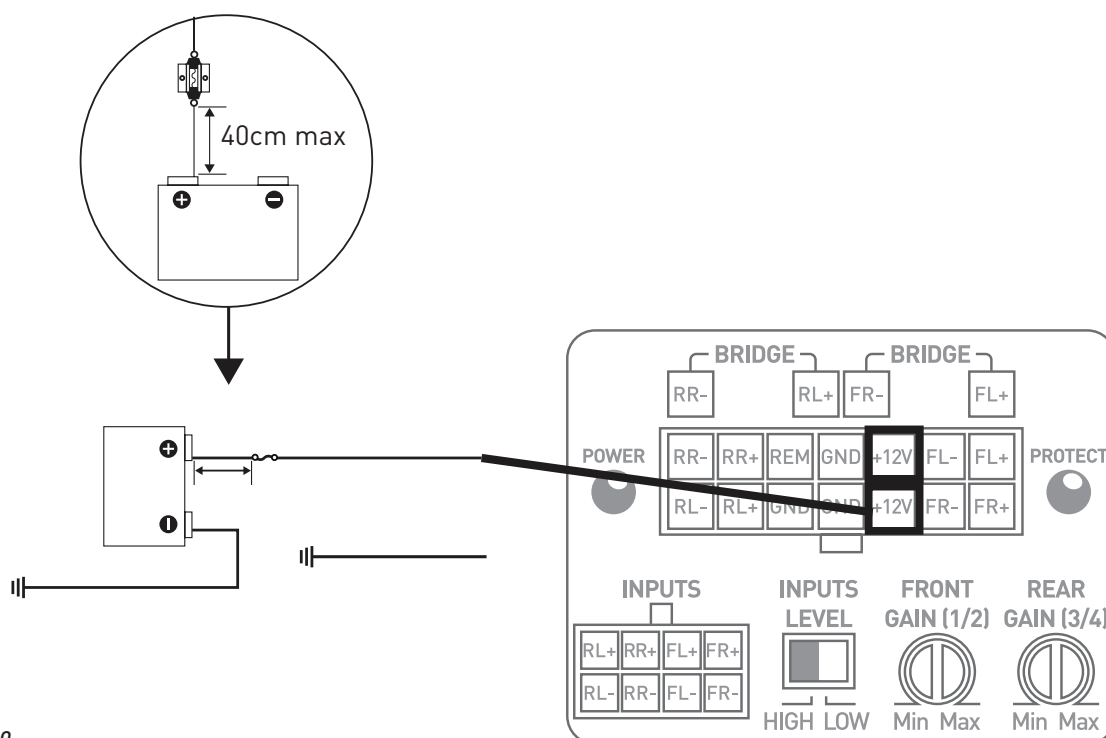

fig. 10
- 9 - Always protect the battery and electric circuit from potential damage using fuses. Install a fuse holder and adequate fuses on the 12V positive (+) power cable less than 15" (40cm) away from the battery terminal. Ideally, this above-mentioned distance should be as short as possible (*fig.10*).
Solder the positive (+) power cable to the wiring harness supplied for your IMPULSE 4.320 amplifier (*fig. 10*)